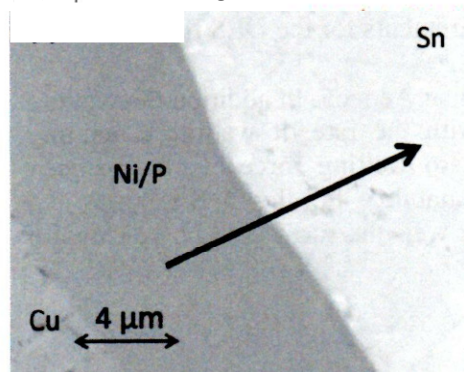
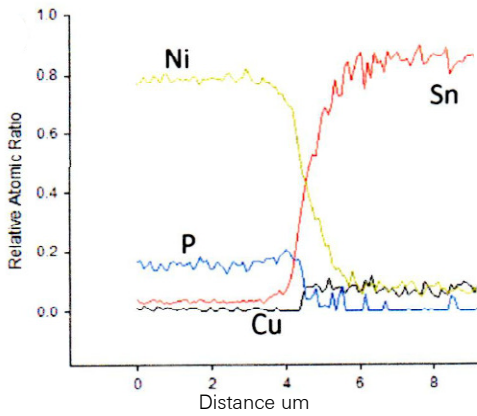

Figure 2c
Figure 2d
**Figure 2c** shows an SEM of the cross section of an ENIG coated, soldered, PCB coupon prepared in Tri-Moore testing using the DES flux. In this case two distinct interfacial layers can be identified. A Cu layer can be seen in the bottom left corner of the image, then an electroless Ni/P barrier layer, then the layer of solder. Again this shows a uniform, pore free bonding to the nickel. In this case no intermetallic growth can be seen and this is consistent with the EDX line analysis shown in **Figure 2d**. Ni/Sn intermetallics are known to grow more slowly than their Cu/Sn counterparts and thus could be less apparent via this technique. The Tri-Moore testing provides qualitative evidence regarding the surface wetting properties of the DES solder flux showing that excellent solder uptake is seen for all surface finishes of the PCBs coupons tested. Solder wetting balance measurements provide a more quantitative analysis method, enabling direct comparison of wetting rates with common commercial fluxes.